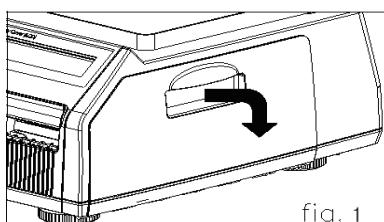

fig. 1
- 1) Press the **ON/OFF** key and make sure that the display is completely off. Open the printer' s side-access panel. (See fig.1)